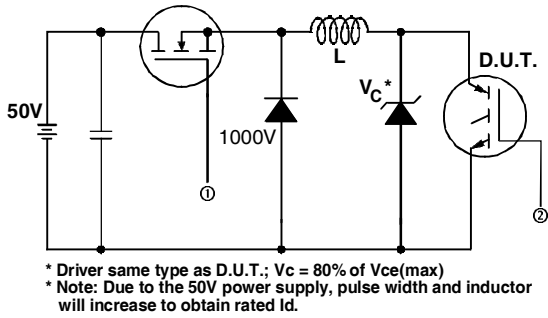

Fig. 13a - Clamped Inductive Load Test Circuit
- ② $V_{CC} = 80\%(V_{CES}), V_{GE} = 20V, L = 10\mu H, R_G = 5.0\Omega,$ (See fig. 13a)
- ③ Repetitive rating; pulse width limited by maximum junction temperature.
- ④ Pulse width $\leq 80\mu s$; duty factor $\leq 0.1\%$.
- ⑤ Pulse width $5.0\mu s$, single shot.